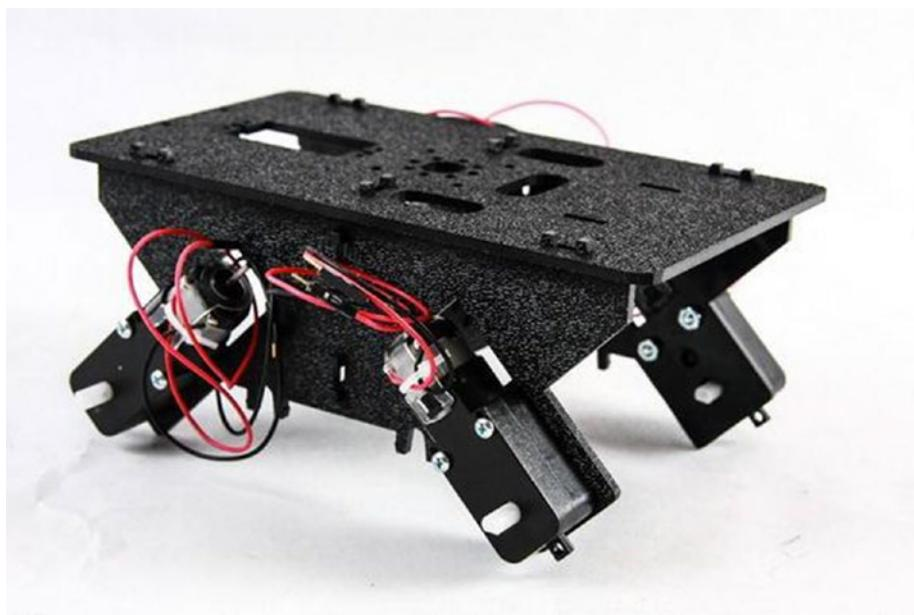

Figure 7-6. All motors mounted
3. Repeat the process for each of the three remaining motors (see Figure 7-6).